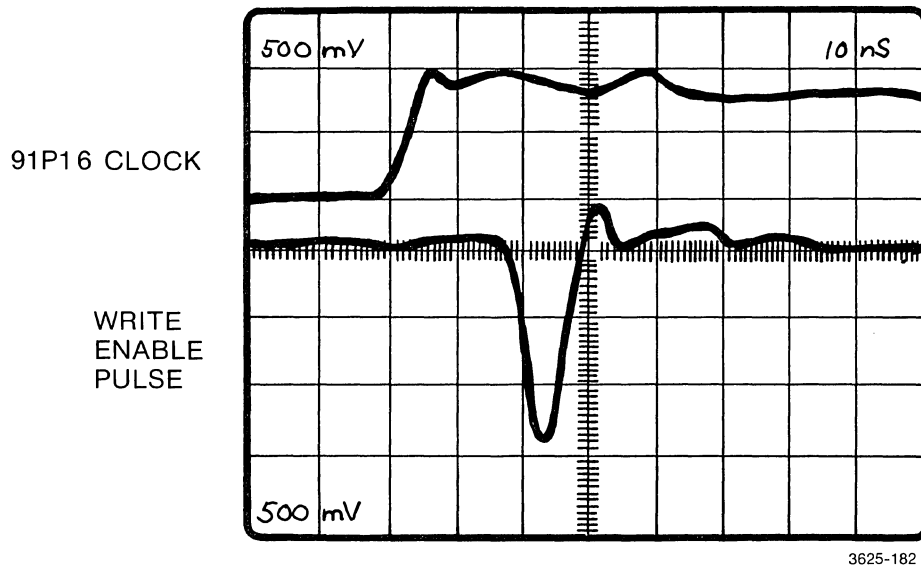

Figure 5-62. 91P16 write-enable adjustment timing.
1. Move the probe for channel 1 to test point TP336. Put the probe for channel 2 on TP363. Reconnect the probe ground leads as necessary. Adjust the oscilloscope to show a display like the one shown in Figure 5-62.
4. Verify that the rising edge adjustment did not disturb the accuracy of the falling edge position. The oscilloscope display should look like Figure 5-62. If the time values shown on the oscilloscope are not accurate, perform steps 2 and 3 again until they are correct.